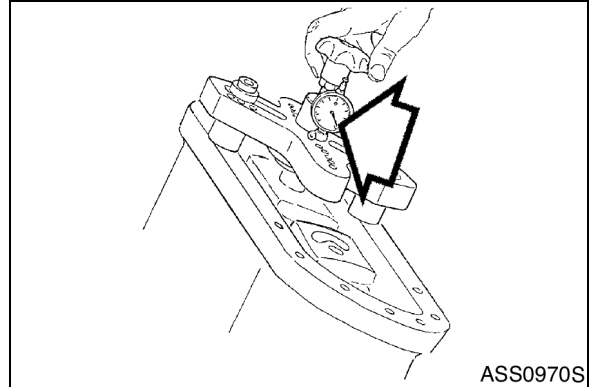

**Figure 102**
B. Size 140 - 200 (Figure 102).